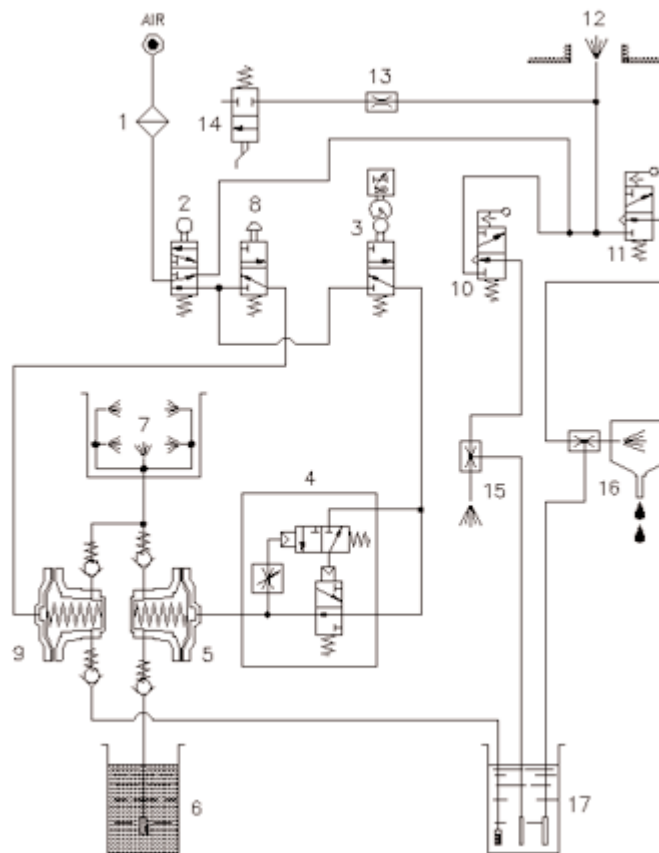

Figure 5
Figure 5 shows the functional diagram of the pneumatic system.
8.1 OPERATION. (See fig. 5)